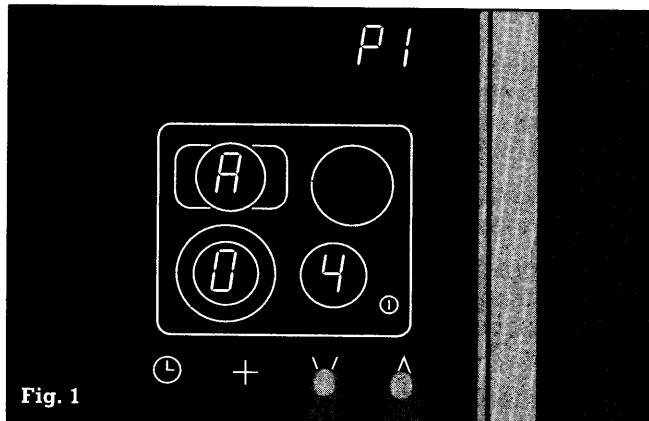

Fig. 1
- Touch symbols V and Λ on the cooking range when switched on. You will hear a signal. Keep your fingers pressed down until a second signal sounds after a few seconds and P 1 flashes on the timer display panel. Remove fingers immediately. A 4 appears on the cooking zone display panel, i.e. a quick boil time of 4 minutes is stored (fig. 1).